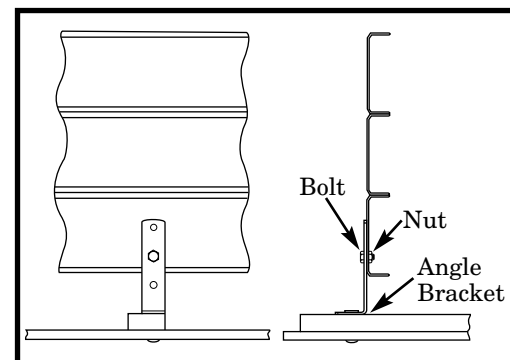

Figure 3
STEP 1. Using the (6) 1/4" nuts and bolts, provided in the bag with the adjustable feet, attach the ladder to the frame by bolting through the angle brackets and then the ladder side rail (see Figure 3).